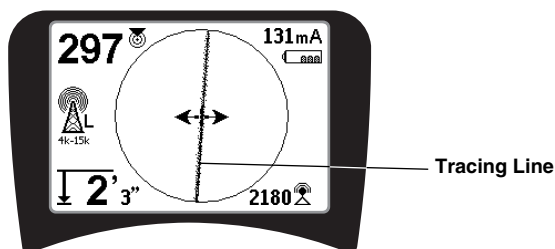

Figure 20 – Tracing Line Showing Low Distortion
**NOTE!** Unlike the Signal Trace lines, the guidance arrows require that the user orient the locator so that the guidance arrows point 90 degrees to the Signal Trace line. (See Figure 20).